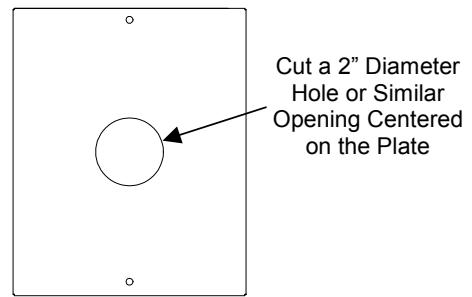

Figure 10 Modifying the Rear Cover Panel
19) Reinstall any panels that were removed to install the new boiler inspection cover. If your steamer had a rear cover panel installed on the rear sheeting, this can either be left off the unit once the new boiler cover is installed or modified by installing a clearance hole to clear the bolt. See Figure 10.